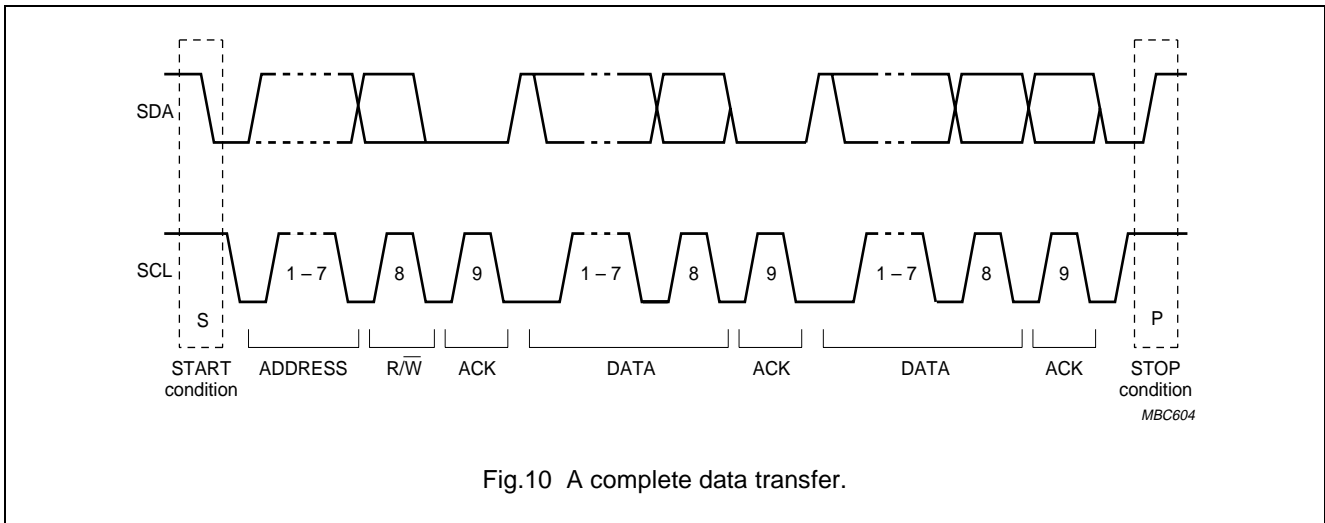

Fig.10 A complete data transfer.
The bus stays busy if a repeated START (Sr) is generated instead of a STOP condition. In this respect, the START (S) and repeated START (Sr) conditions are functionally identical (see Fig. 10). For the remainder of this document, therefore, the S symbol will be used as a generic term to represent both the START and repeated START conditions, unless Sr is particularly relevant.
Data transfers follow the format shown in Fig.10. After the START condition (S), a slave address is sent. This address is 7 bits long followed by an eighth bit which is a data direction bit (R/W) - a 'zero' indicates a transmission (WRITE), a 'one' indicates a request for data (READ). A data transfer is always terminated by a STOP condition (P) generated by the master. However, if a master still wishes to communicate on the bus, it can generate a repeated START condition (Sr) and address another slave without first generating a STOP condition. Various combinations of read/write formats are then possible within such a transfer.